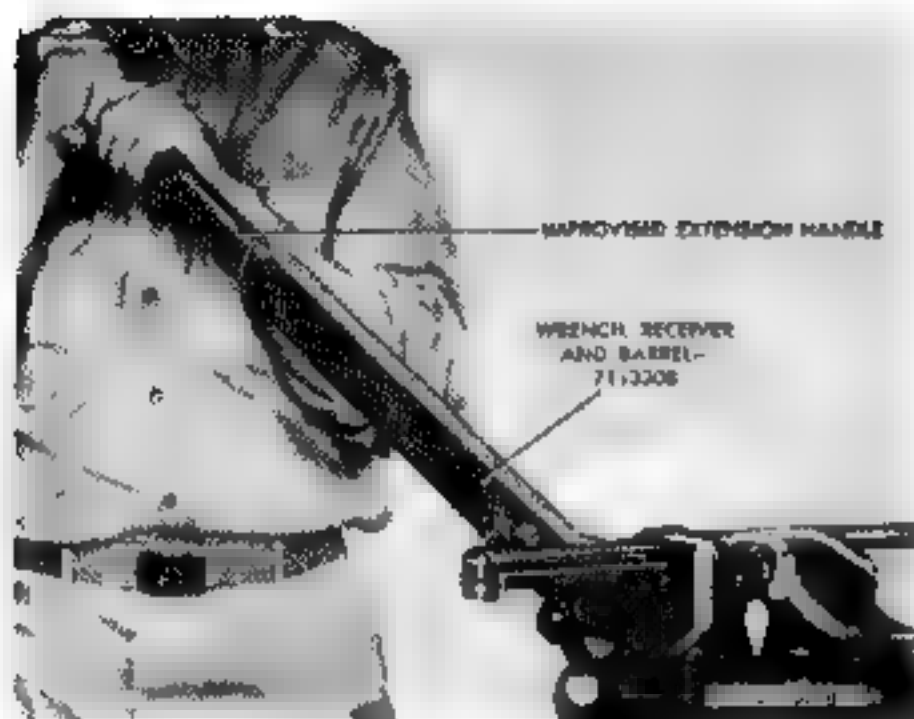

Figure 76. Removing barrel from receiver.
*a. Removing Barrel From Receiver (DEPOT MAINTENANCE ONLY).* Do not remove the barrel from the receiver except for replacement of a new barrel. Replace barrel if it is bent or damaged, if the chamber is worn to the extent of effecting excessive headspace or if it does not meet the requirements specified in table III. Completely disassemble all components from barrel and receiver. Place barrel in jaw protected vise. Allow enough of the rear end of the barrel to project from the vise to permit the wrench 7113308 to be positioned over front of receiver (Fig. 76). Place wrench over receiver near barrel and unscrew counterclockwise.